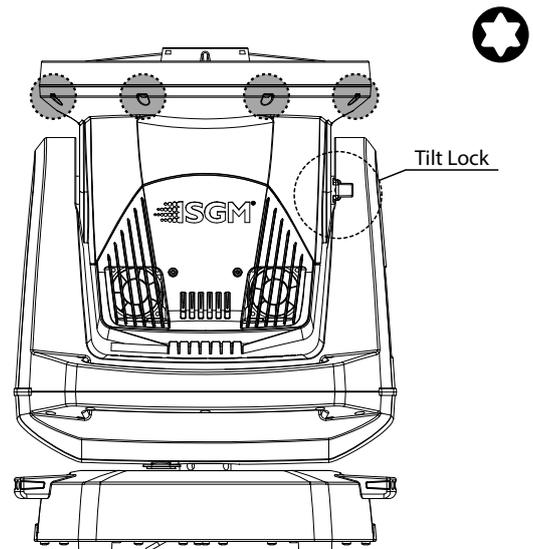

Figure 23
- Loosen up the 8 screws behind the front ring to remove it (figure 23).